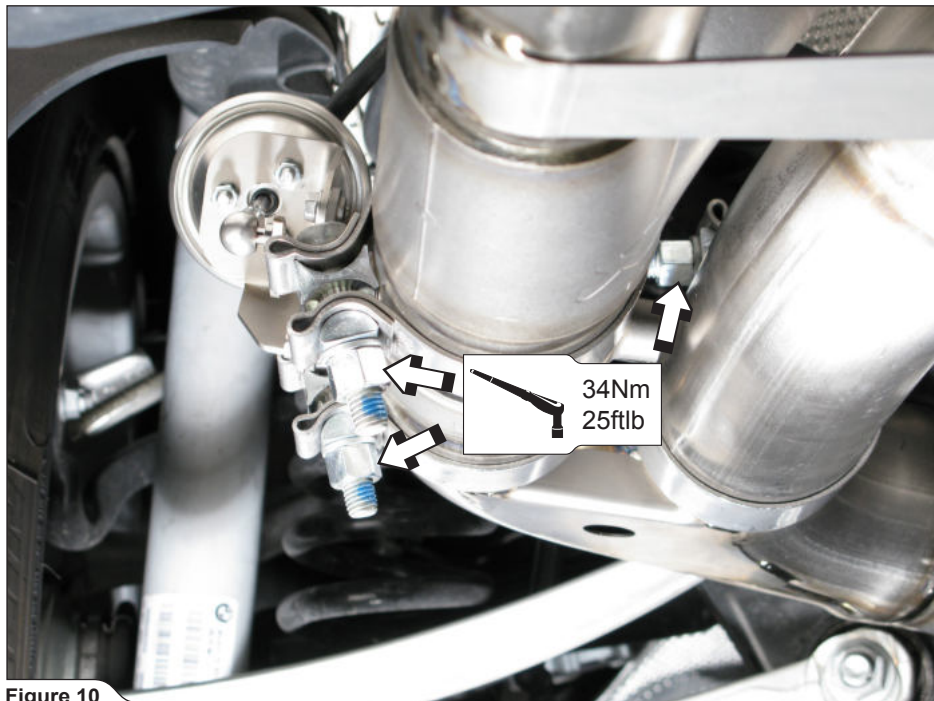

Figure 10
7. Align/rotate the Valve Pipe as shown and tighten the clamps to the specified torque (**Figure 10**).